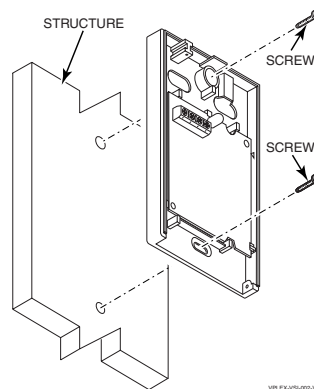

FIGURE 4: MOUNTING THE VPlex-VSI
4. Mount the module to the wall or electrical box using self-tapping screws as shown in Figure 4. (Screws not supplied)